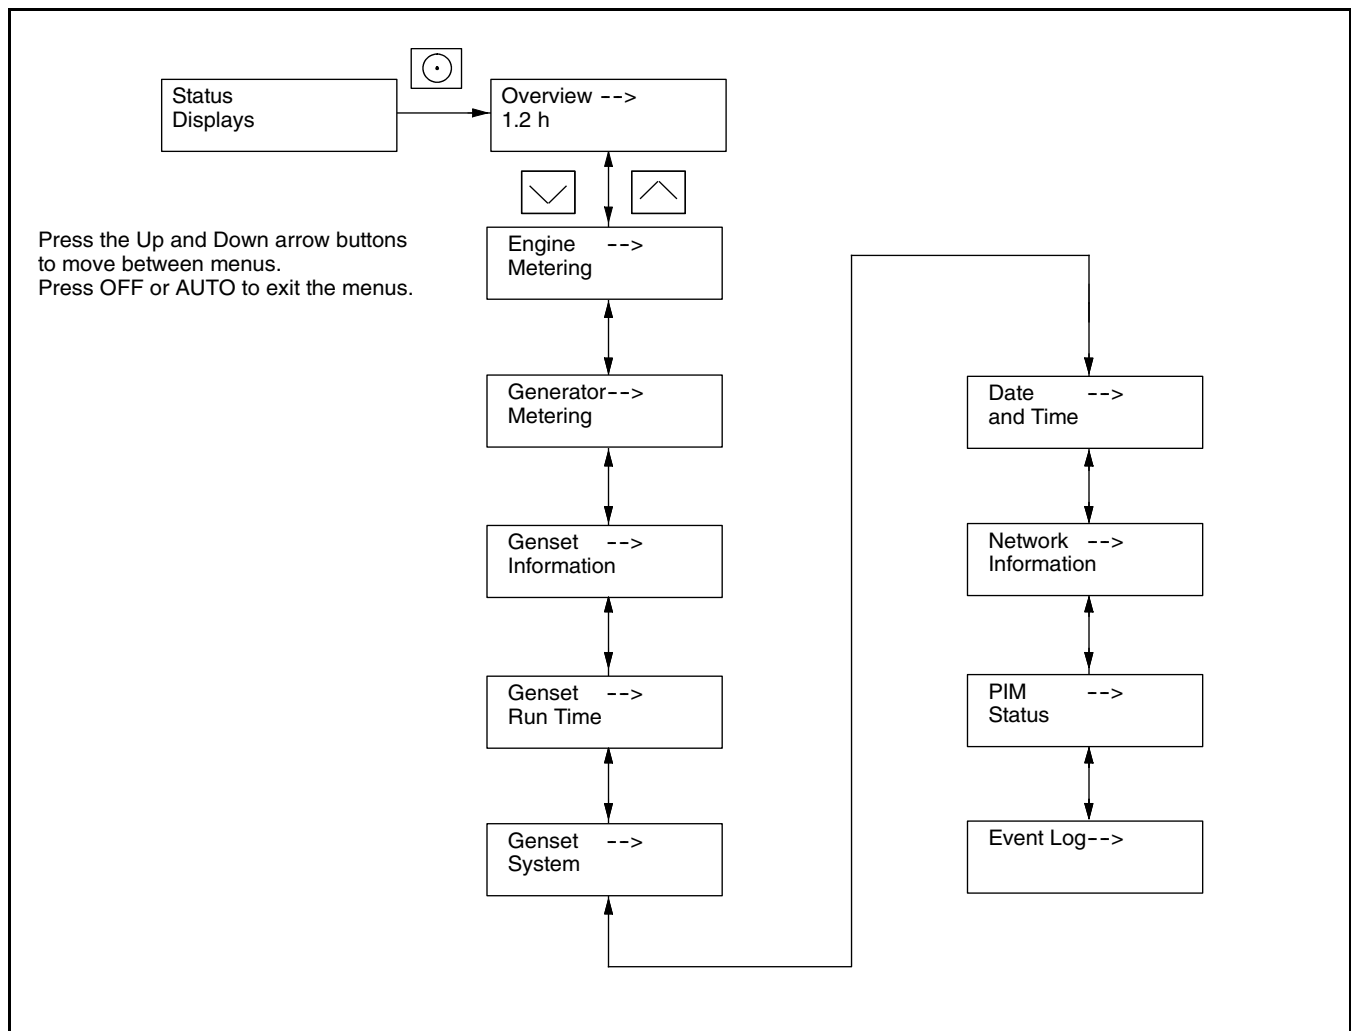

Figure 3-9 VSC Main Menu
2. Press the down arrow button until the desired menu is displayed. See Figure 3-9. Date and Time are used for this example.
2. Press the Select button to go to the main menu. See Figure 3-9.
Press the Select button once to bring up the main menu. Overview is displayed. See Figure 3-9. Press the down arrow button to step to the next menu, Engine Metering. Use the UP and DOWN arrow buttons to step up and down through the menus shown in Figure 3-9.